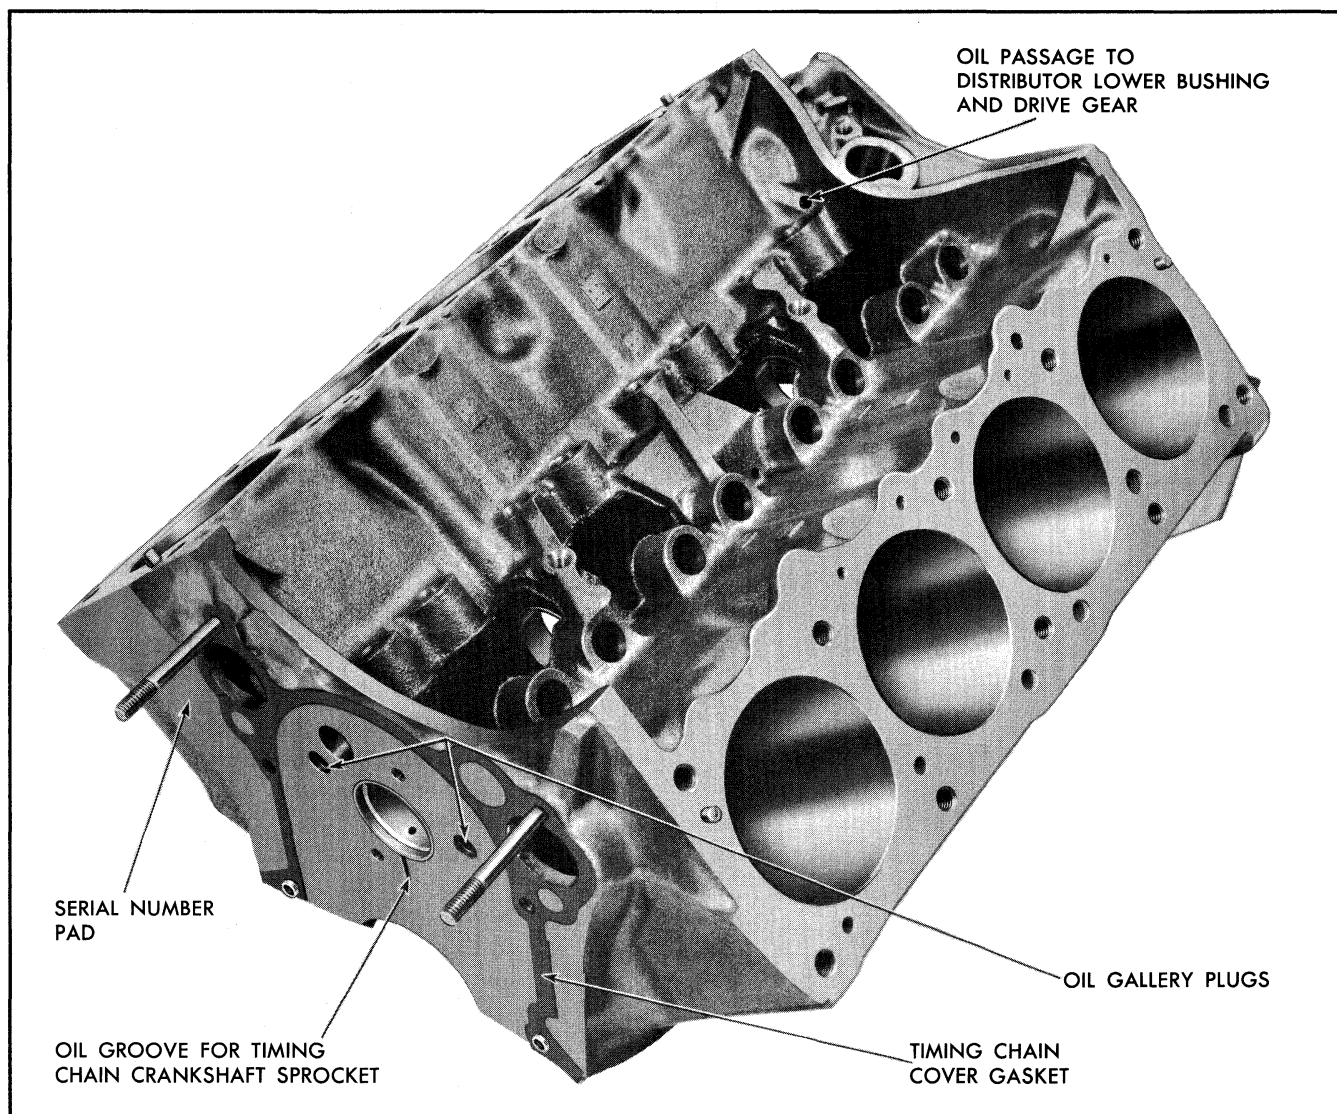

Fig. 6-151 Cylinder Block View from Left Front
NOTE: Oil circulation diagram is provided in the engine lubrication section. Figures 6-151, 6-152 and 6-153 also show the various locations of water jacket core hole plugs.
e. With cylinder block right side up, check oil passages to left bank lifter bosses. Use rubber hose to blow smoke in oil filter outlet while observing for smoke passing out oil passages from left main oil gallery to lifter bosses (Fig. 6-151).